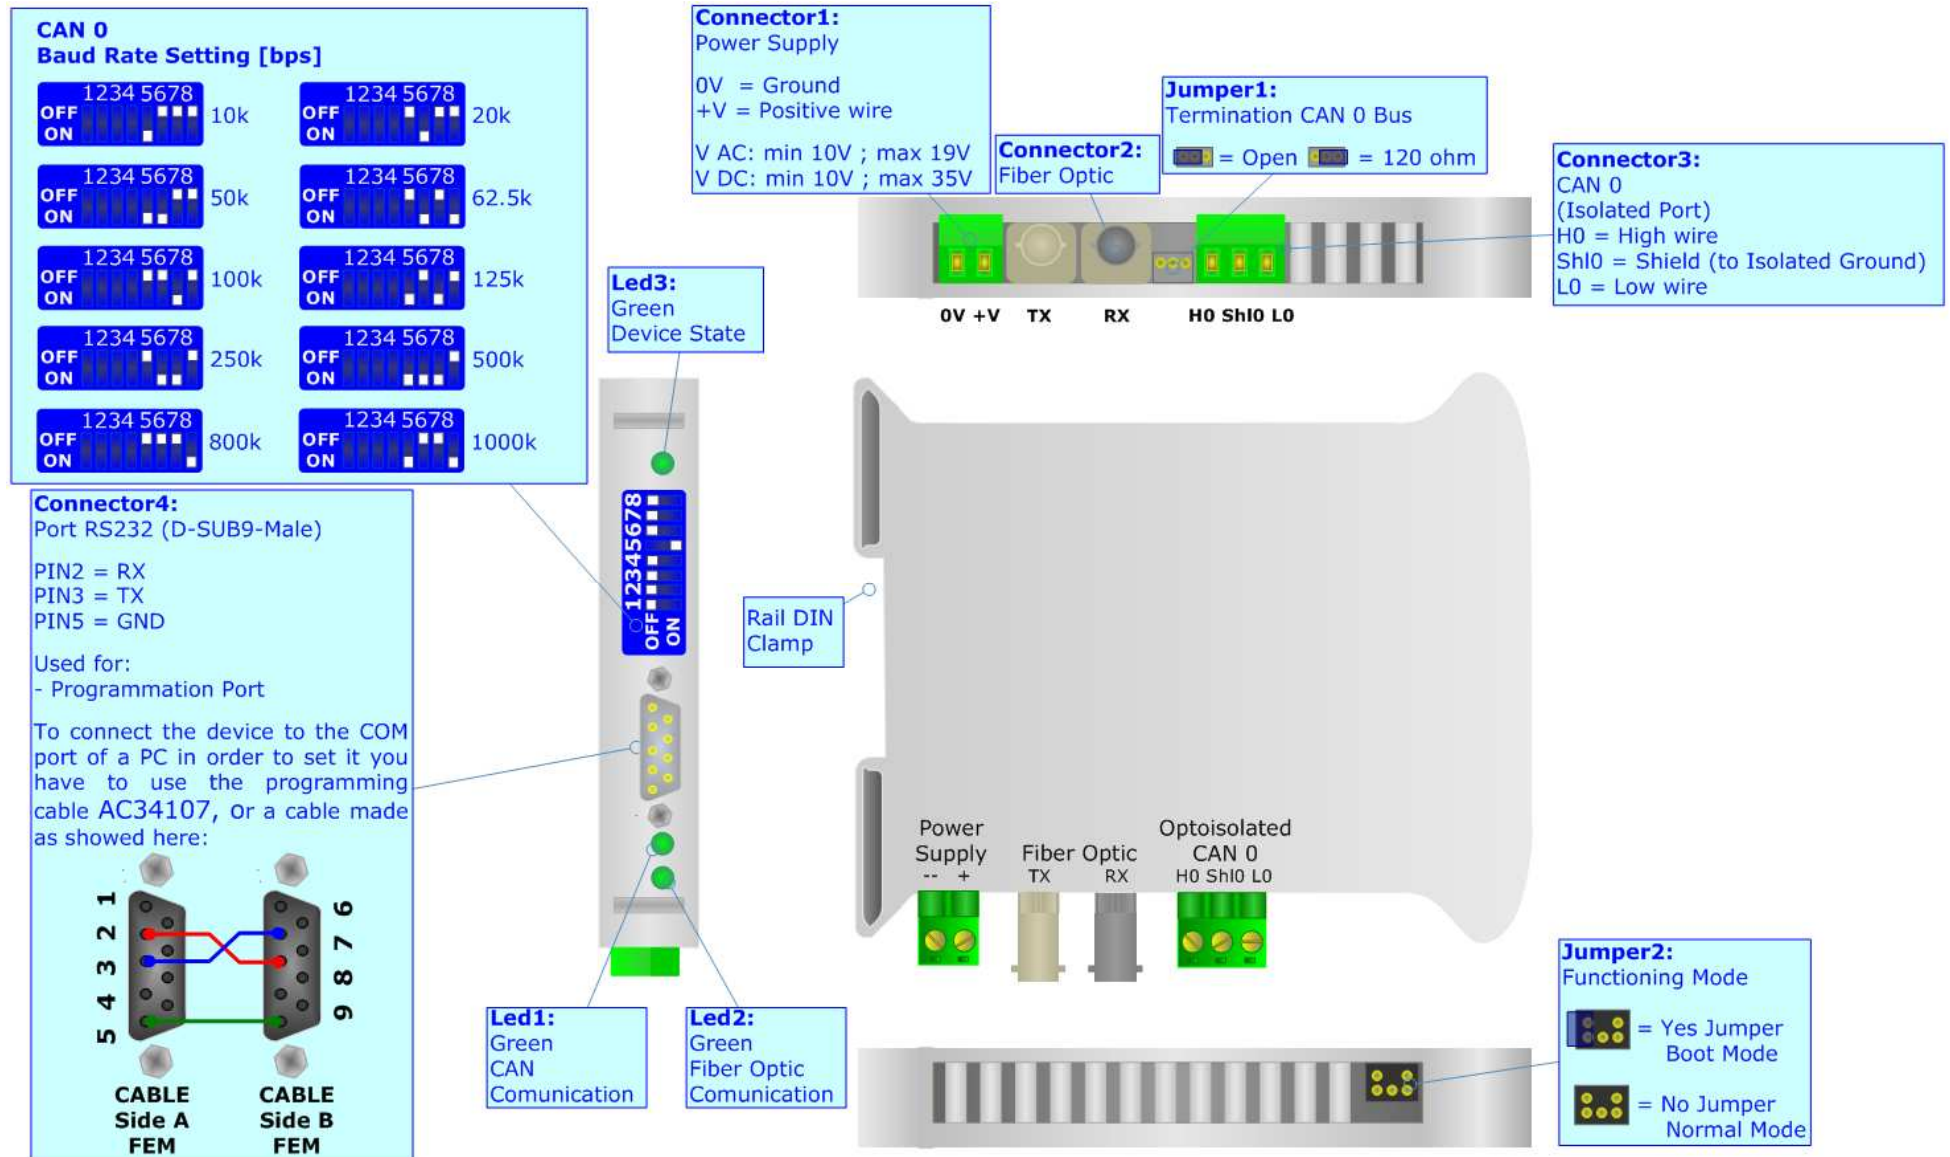

Figure 3: Connection scheme for HD67117/180/181/182FS
- Insert the Boot Jumper (For more info see Fig. 3);
- Check the BOOT Led. It must blink quickly (For more info see Fig. 3);